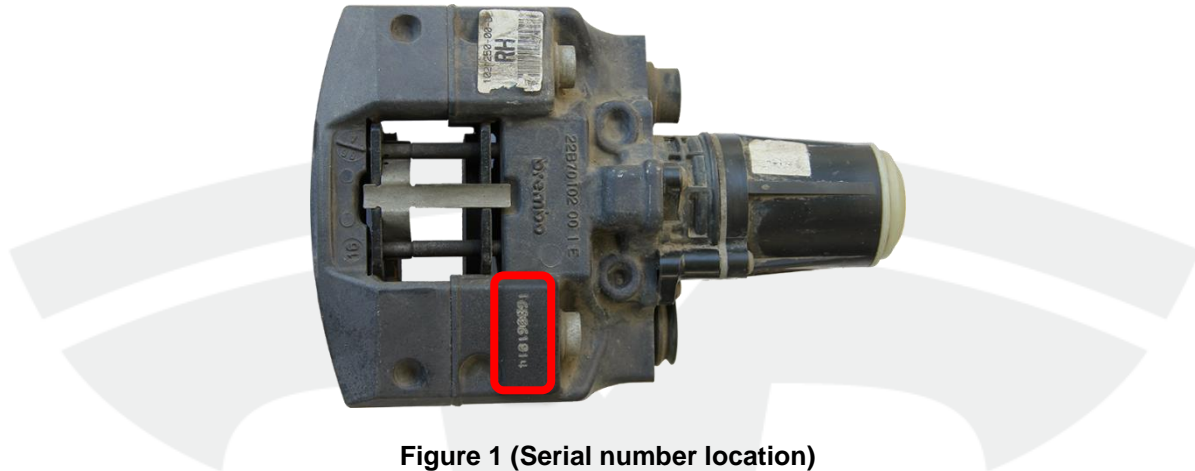

Figure 1 (Serial number location)
2. Record the serial numbers of the old calipers through the Material Resource Board (MRB) process (Figure 1).